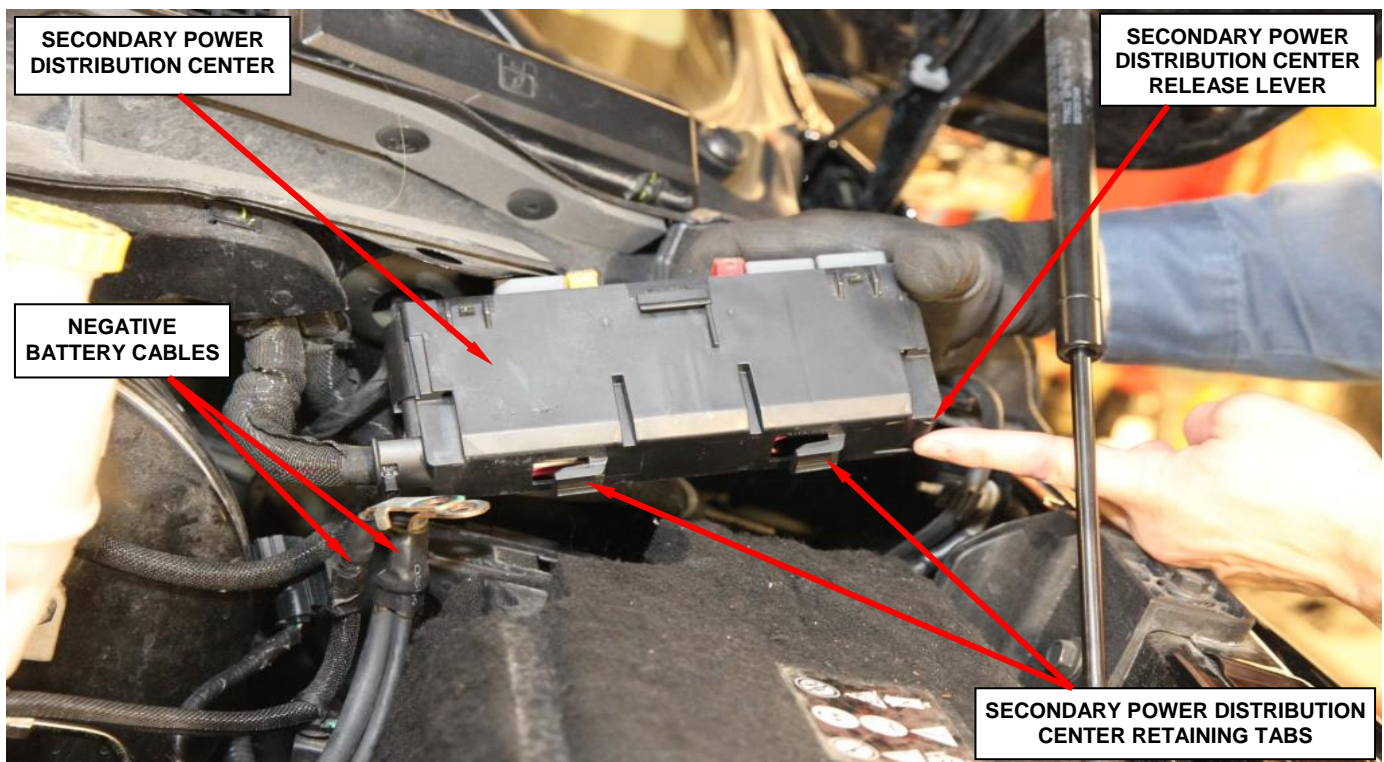

Figure 6 – Secondary Power Distribution Center
13. Disconnect the negative cables from the negative battery terminal (Figure 6).
14. Unclip the secondary Power Distribution Center (PDC) from the battery tray (Figure 6).
47. Clip the secondary Power Distribution Center (PDC) to the battery tray (Figure 6).